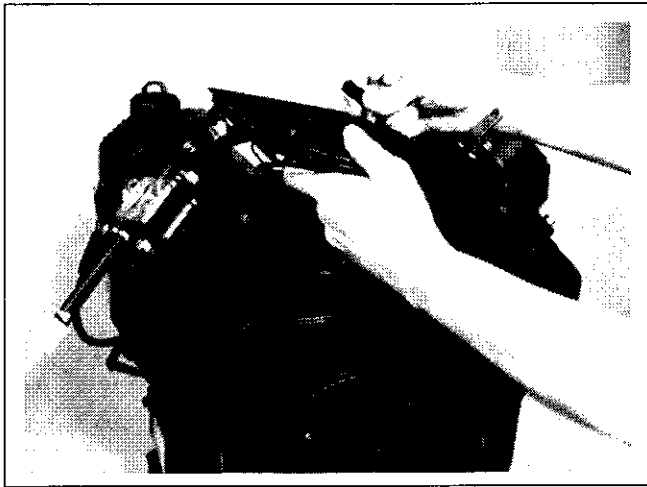

Figure 11-77. Pulling Breather Tube Through Base.
2. Position the gasket and air cleaner base while carefully pulling the loose end of the rubber breather tube through the base. See Figure 11-77.